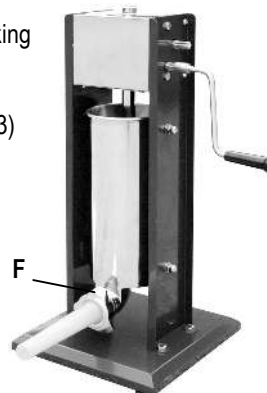

Figure 3
1. Unscrew the Screw Ring from the bottom of the food hopper. (F, Figure 3)
2. Insert desired funnel into Screw Ring (G), then fasten both to the food hopper.